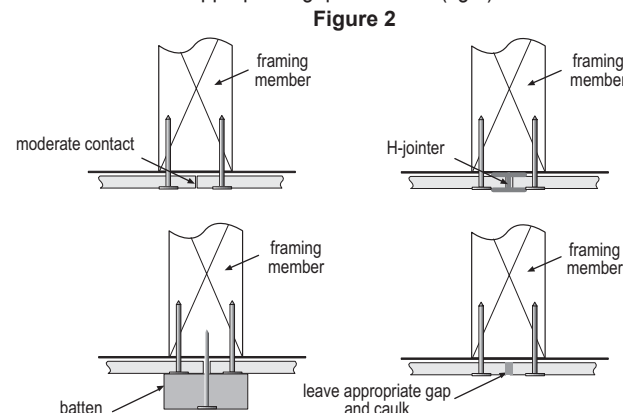

Figure 2
- Install panels in moderate contact at ends, provide PVC or metal jointers, battens or leave appropriate gap and caulk (fig 2).